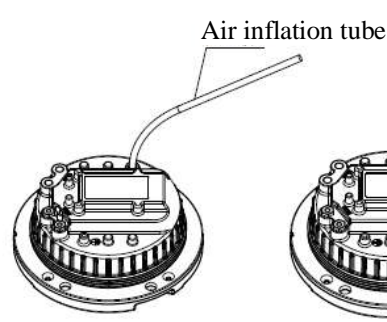

Figure 5-23
- Prepare 138Kpa air source (the air pressure shall not be greater than 150Kpa) and applicable air gun (air tube), inflate the air by aiming at the valve until the air pressure in the lighting fixture meets the requirements (Figure 5-23). Put this lighting fixture into the water with the depth of 76mm for at least 1min and check whether there are bubbles under the state of static water surface. If not, it means that the sealing property of the lighting fixture is good, otherwise it shall be deemed that the lighting fixture has leakage.